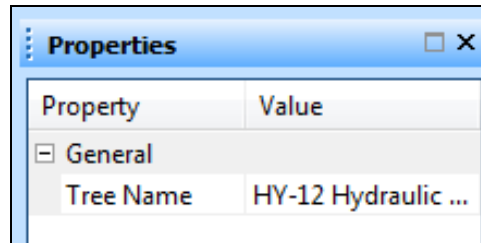

Figure 8 Rename the schematic data tree here
11. In the *Properties* section of the Main Graphics Window, enter “HY-12 Hydraulic Schematic” in the *Value* column on the *Tree Name* row (Figure 8).